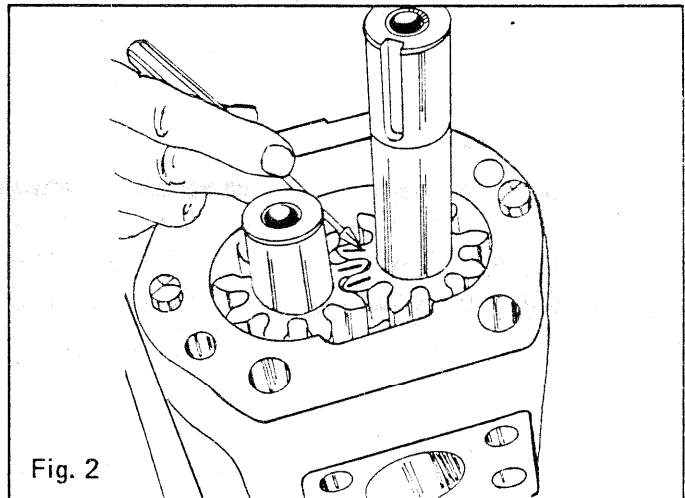

Fig. 2
3. Remove adapter seal plate (11) drive (12) and driven (13) gear assemblies. Note: If gears are to be reused, they should be marked before removal to ensure replacement in the same position. See fig. 2.
4. Remove section seal (7)
5. Remove cover/housing seal plate (11)
6. Remove back-up ring (9) and seal (10) from both seal plates. Note position of seal and back-up ring for correct installation upon reassembly.
- D. Drive shaft splines or keyways distorted or badly worn. See fig. 2. Note: Gear assemblies should be replaced in pairs.